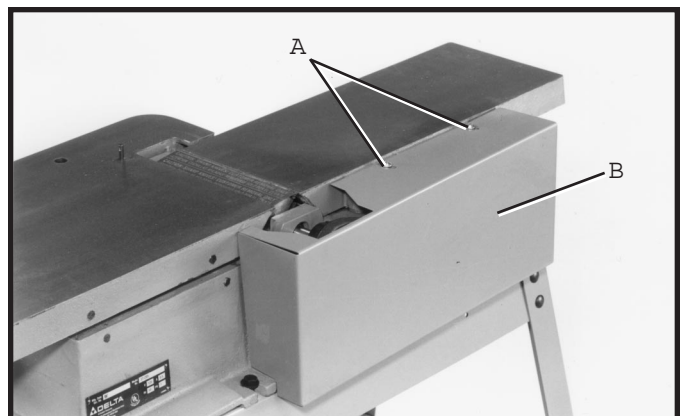

Fig. 11
2. Insert slots in guard (B) under heads of screws (A) as shown in Fig. 11, and tighten screws to hold guard in position.